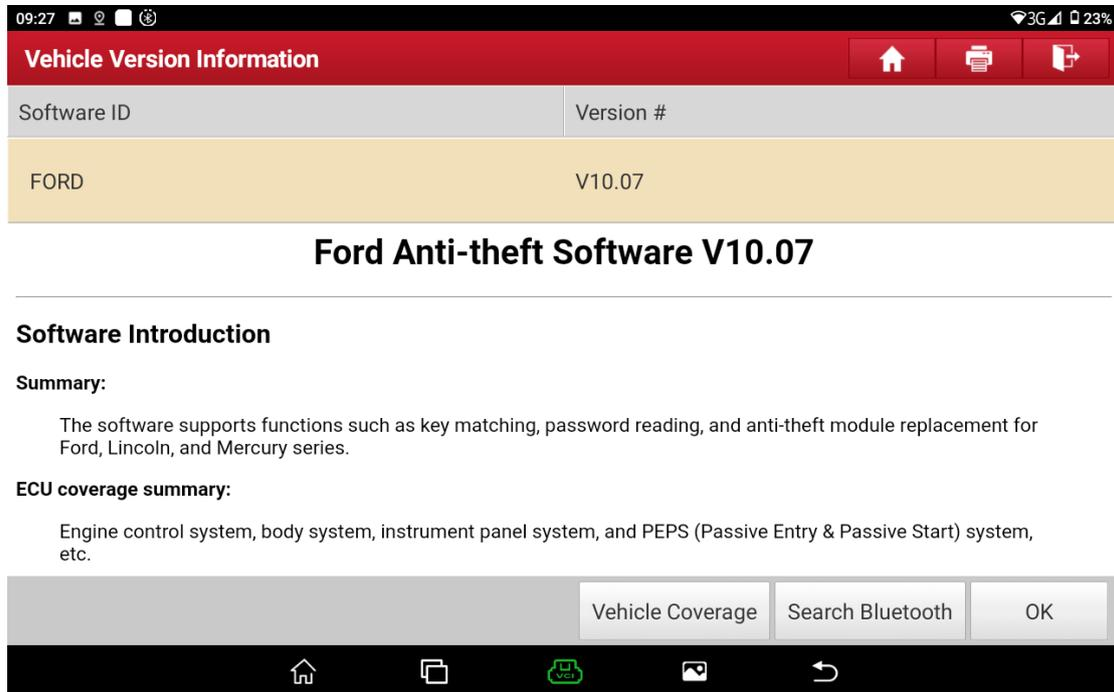
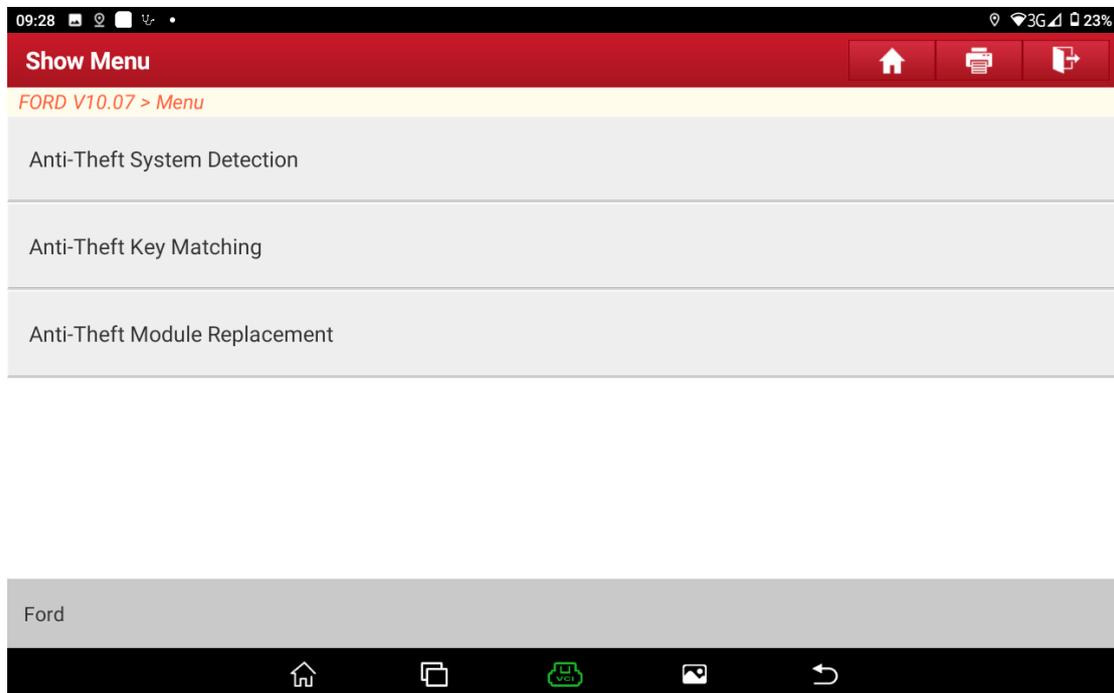
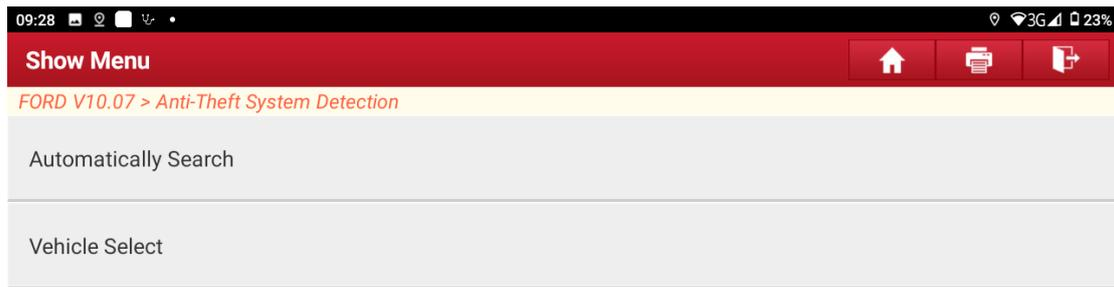

Figure 1
Figure 2
Figure 3
1. Choose [Anti-Theft System Detection] > [Automatically Search]. See Figure 1, Figure 2, and Figure 3.